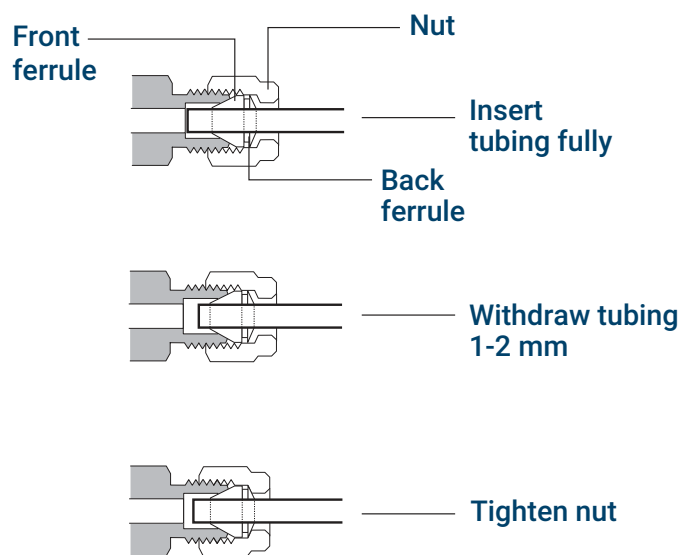

Figure 26. Insert the tubing
4. Push the tube fully into the plug, then withdraw it approximately 1 to 2 mm. See **Figure 26**.